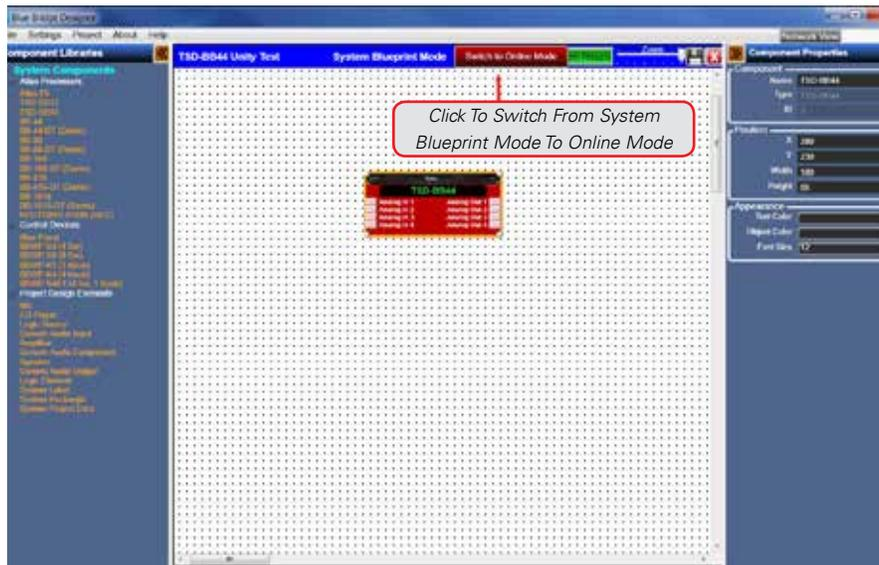

Figure 16
- Click the button “Switch to Online Mode” to go from System Blueprint Mode (Functional Wiring Diagram) to Online (Live) mode, in the menu bar as shown in Figure 16.